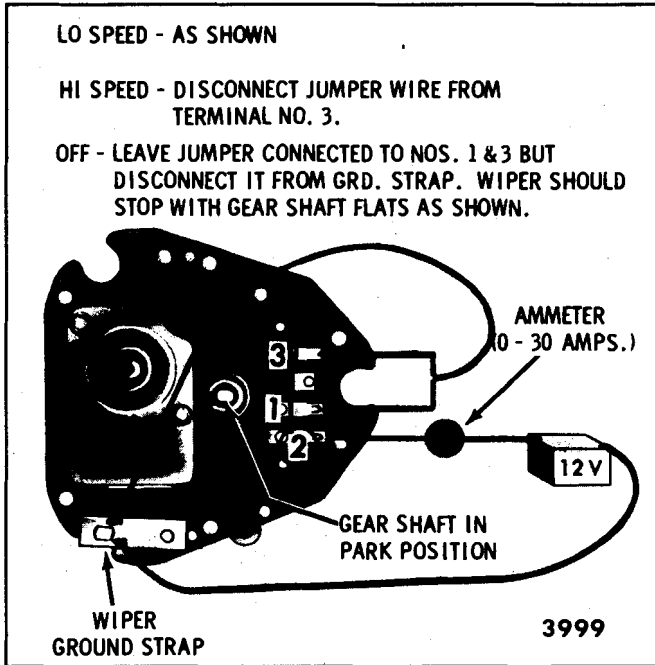
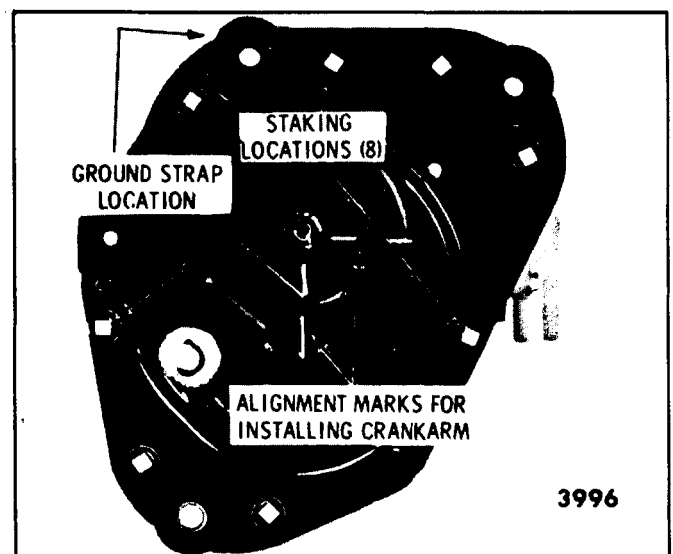

Fig. 2-5-Jumper Wire Connections
Fig. 2-11-Staking Locations
(SEE FIGURES 2-5, 2-8 and 2-9)
4. Drill out staking that secures gear box cover (Fig. 2-11). Use a 9/32" drill.
8. To reassemble crankarm in proper position, operate wiper to park or "OFF" position (Fig. 2-5) and install crankarm so that index marks on crankarm line up with those on the gear box cover (Fig. 2-11).
9. Operate wiper (Fig. 2-5) and check performance per data in specification chart (Fig. 2-17).